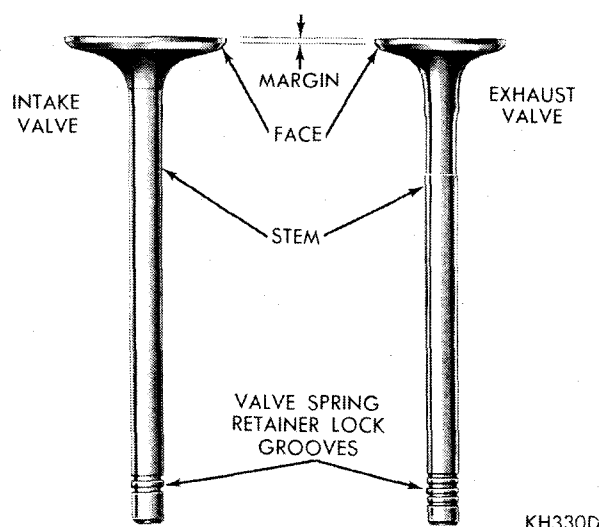

Fig. 12—Intake and Exhaust Valves
(2) Inspect the remaining margin after the valves are refaced (Fig. 12). Valves with less than 3/64 inch margin should be discarded.
(3) When refacing valve seats, it is important that the correct size valve guide pilot be used for re-seating stones. A true and complete surface must be obtained.
(4) Measure the concentricity of valve seat using dial indicator No. 13725. Total runout should not exceed .002 inch (total indicator reading).
(5) Check the valve seat with Prussian blue to determine where the valve contacts the seat. To do this, coat valve seat lightly with Prussian blue then set valve in place. Rotate the valve with light pressure. If the blue is transferred to the center of valve face, contact is satisfactory. If the blue is transferred to top edge of valve face, lower valve seat with a 30 degrees stone. If the blue is transferred to bottom edge of valve face raise valve seat with a 60 degrees stone.